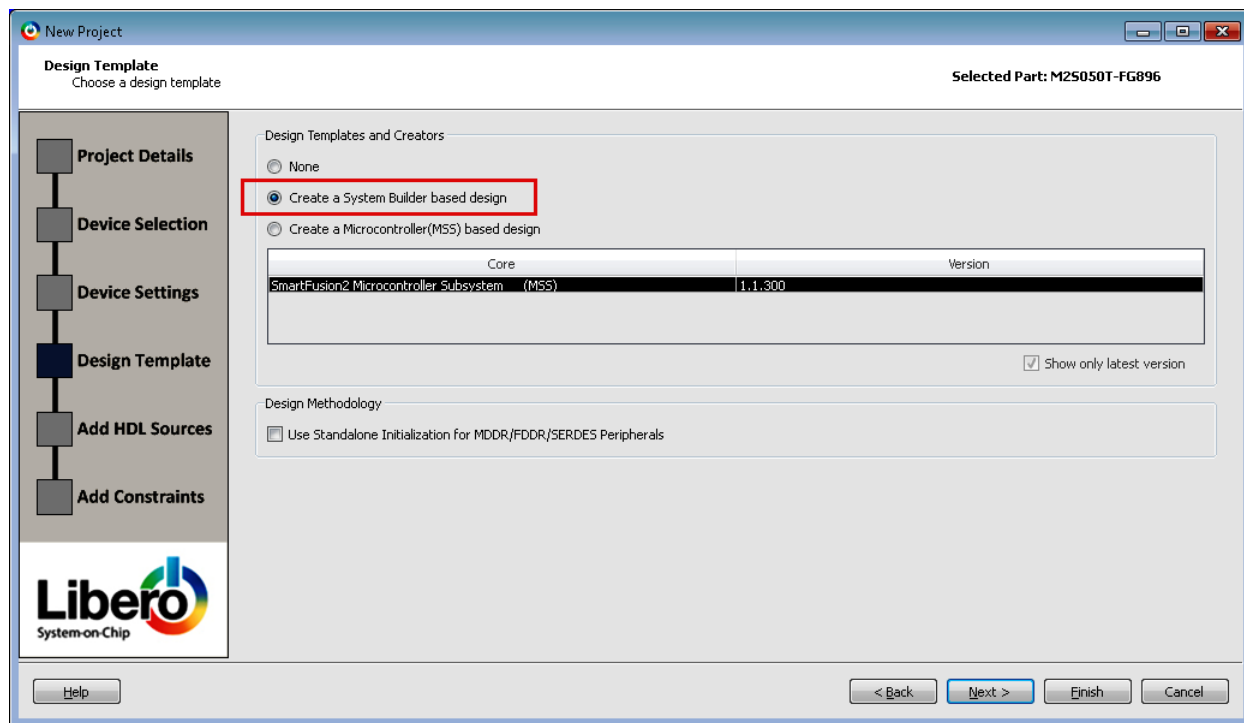

Figure 6 • Device Template Window
5. Click **Next**. In the **Design Template** window, select **Create a System Builder base design** under **Design Templates and Creators** as shown in Figure 6.